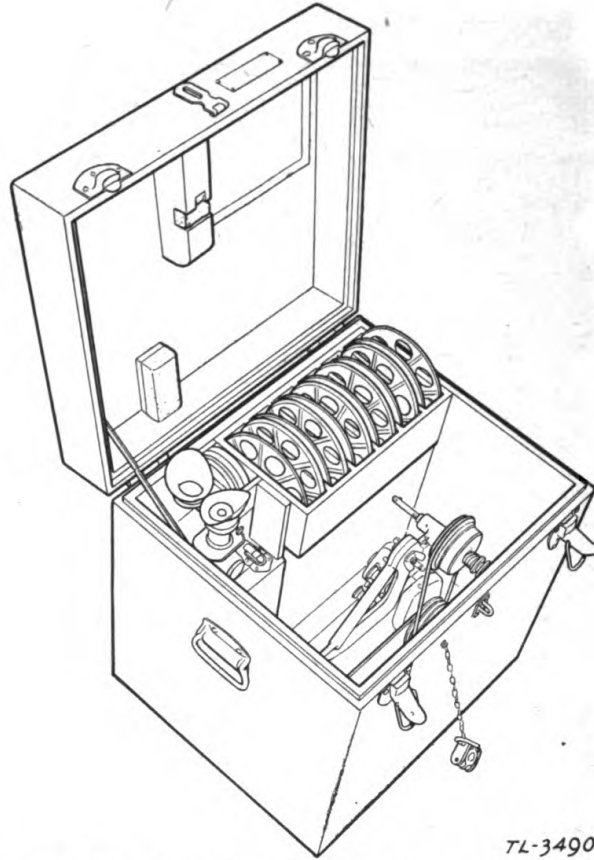

FIGURE 16.—Film viewer PH-97-A in carrying case.
j. Film viewer PH-97-A.—Figure 16 shows the film viewer in the case used for transportation and storage.